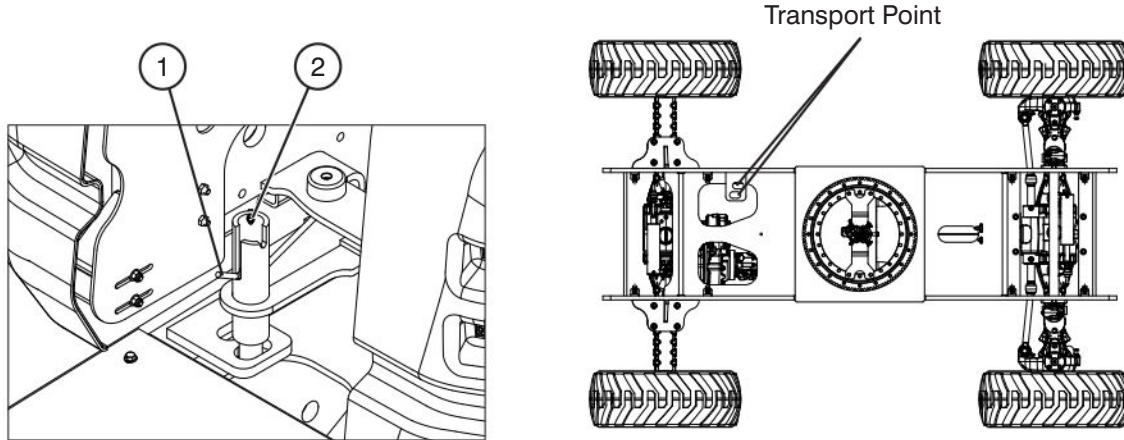

Figure 3-4. Turret Transportation Lock & Locking Points
1. Ensure that turret is positioned so that turret transportation lock tube (item 1 - Figure 3-4) is aligned into one of two turret locking points in the turret rotation lock plate.
2. Pull out turret lock retaining pin (item 2 - Figure 3-4). Lower turret lock into locked position and reinsert turret lock retaining pin.
1. Place boom in stowed position centered between drive wheels. Lock turret using turret transportation locking pin (refer to Section 3.11-2) into the transport point (refer to Figure 3-4).